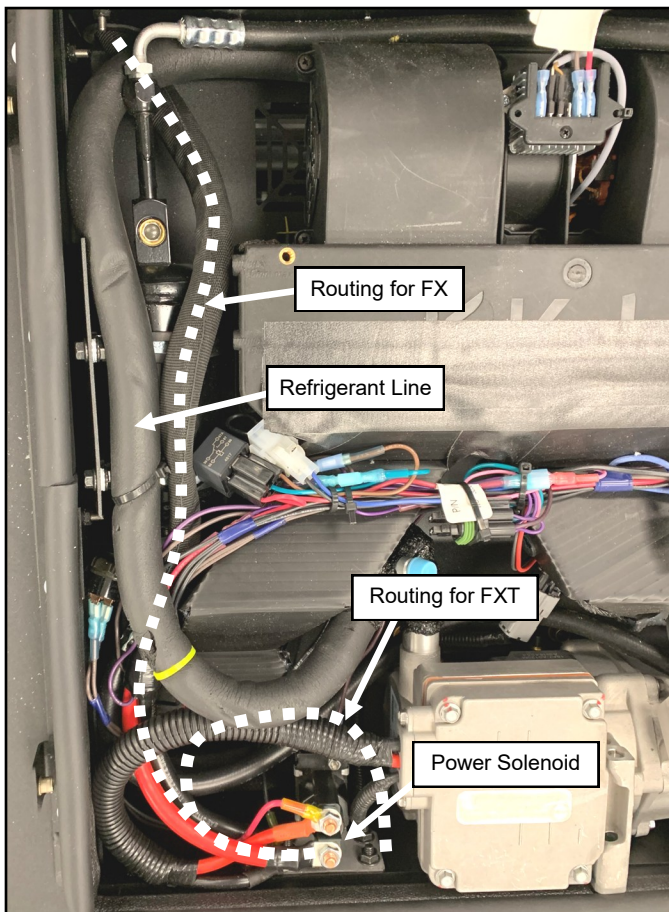

Fig. 1.3 (Route harness inside A/C Unit)
- 1.3 Route the A/C Power Supply Harness per fig 1.3.